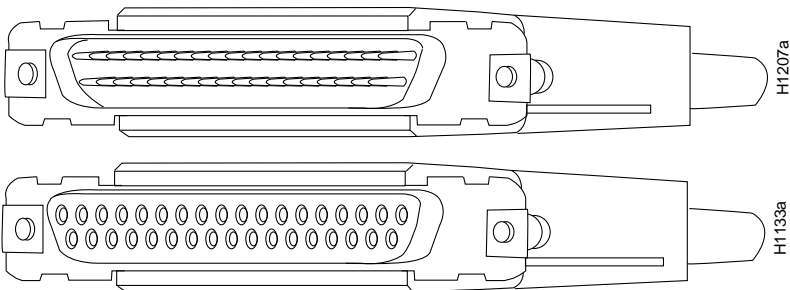

Figure 3-7 RS-449 DCE and DTE Connectors
- RS-449 DCE and DTE connectors, Figure 3-7